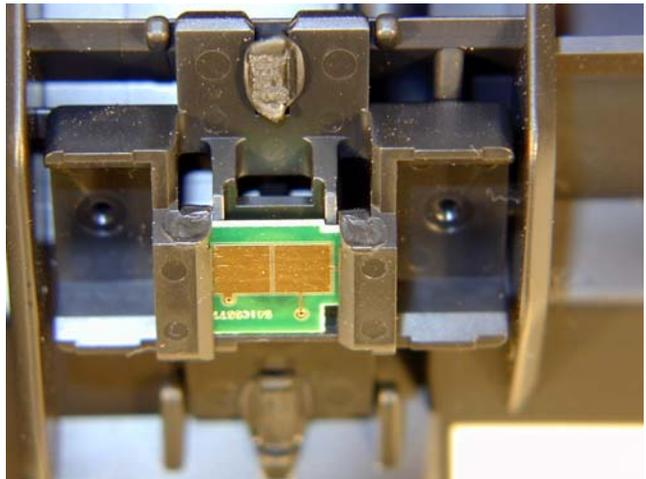

Figure 57
34) Replace the chip. See **Figure 57**